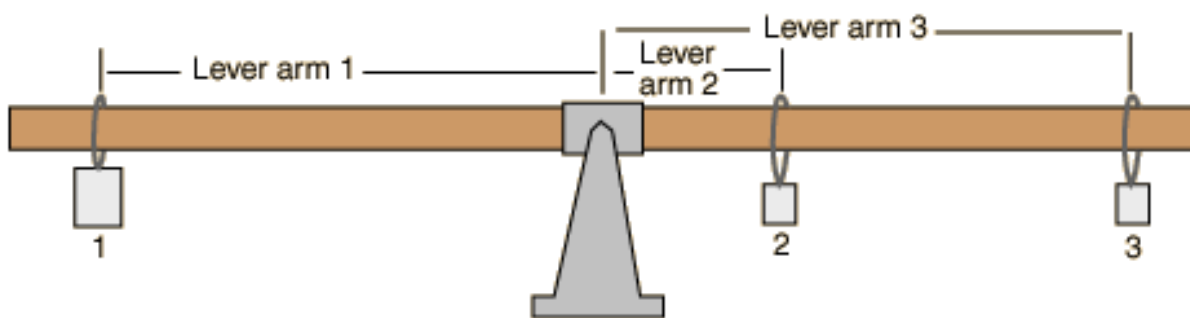

Figure 1
Figure 1 shows a system, consisting of a rigid rod upon which three masses are balanced:
4. **Experiment 2:** Place the masses used above on the right side of the balance point, one at 20 cm and the other at 30 cm, and now add a third mass on the left side (as in Figure 1). Slide the third mass around until the system balances. **Do you need to include the mass of the clamps?** Record the masses and lever arms in Table 2.